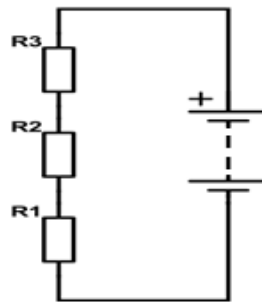

Figure 1 - Circuit 1
- a. A circuit is connected with a 12V battery, as shown in Figure 1. R1 is 10Ω , R2 is 30Ω and R3 is 20Ω .